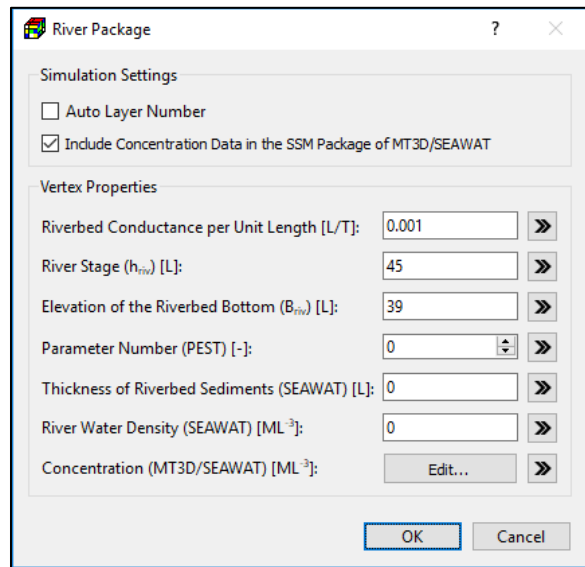

Figure 83. The River Package dialog box for specifying vertex properties
3. Polyline input method: Figure 83 shows a dialog box for specify data to one or more vertices of a polyline. The specified vertex data may be interpolated to model cells following the rules described in Section 3.4.2.2 and the rules below.